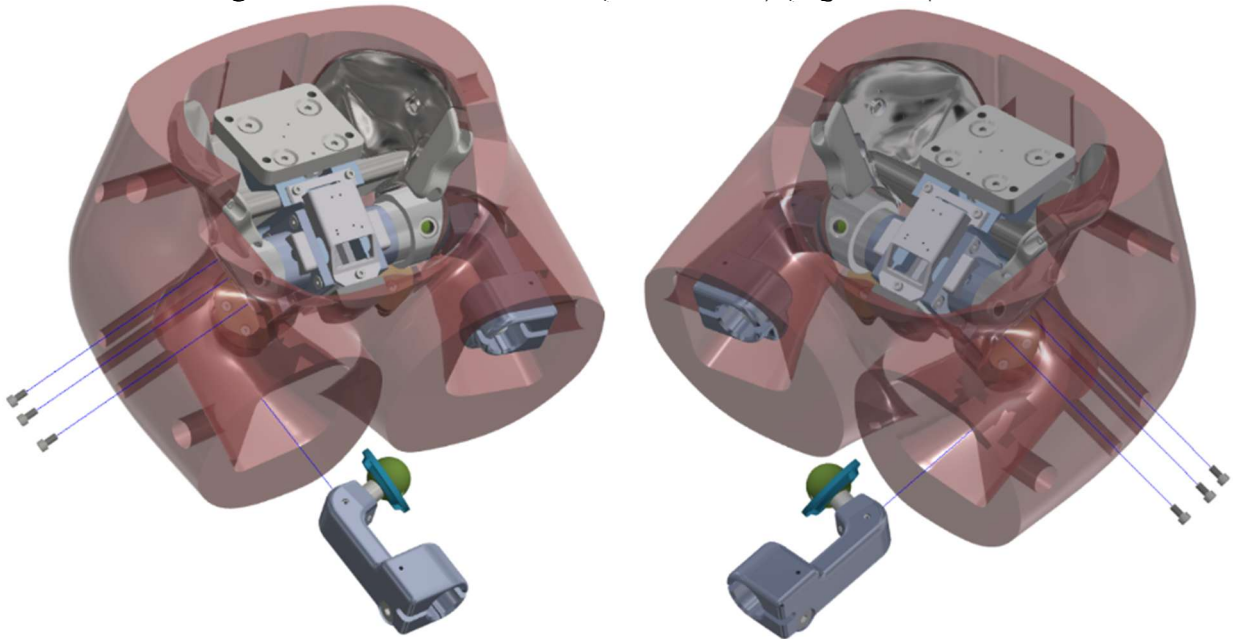

Figure 8-5. Remove three M5 X 0.8 X 10 LG. SHCS from the right and left Femur Assembly (474-4700-1,2)
- 8.2.2 Remove three M5 X 0.8 X 10 LG. SHCS from the right and left Femur Assembly (474-4700-1,2) which are accessed by the three holes in the left and right sides of the Pelvis Flesh (474-4521-A) (Figure 8-5).